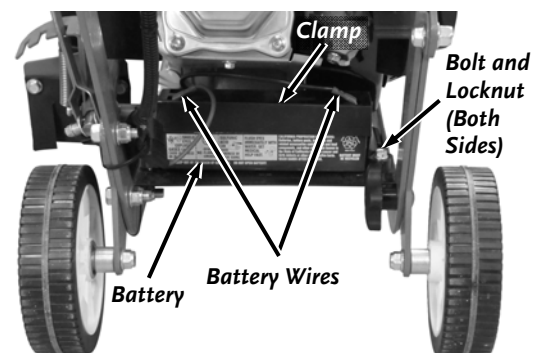

Figure 26
1. Disconnect the Battery Terminals (**Figure 26**).